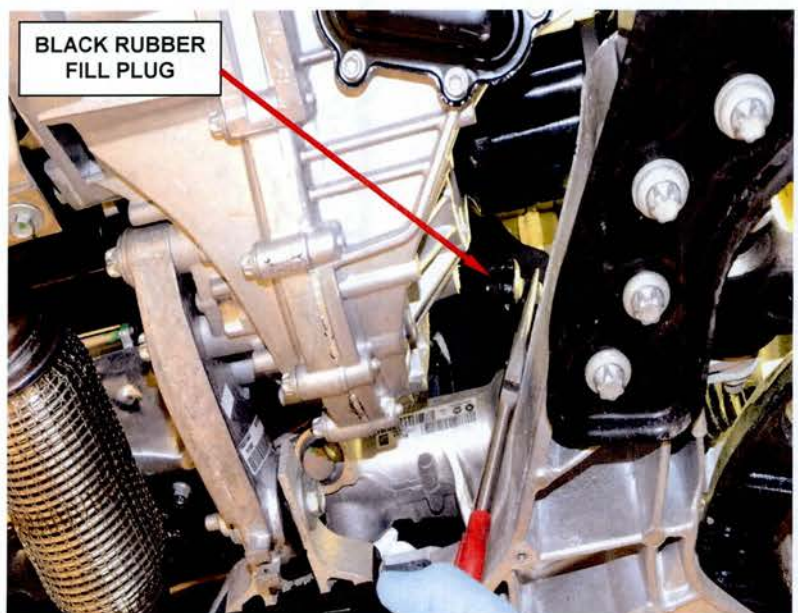

Figure 35 – Rubber Fill Plug Location
- a. Remove and save the black rubber fill plug from the left side of the transaxle case (near the left halfshaft) (Figure 35).